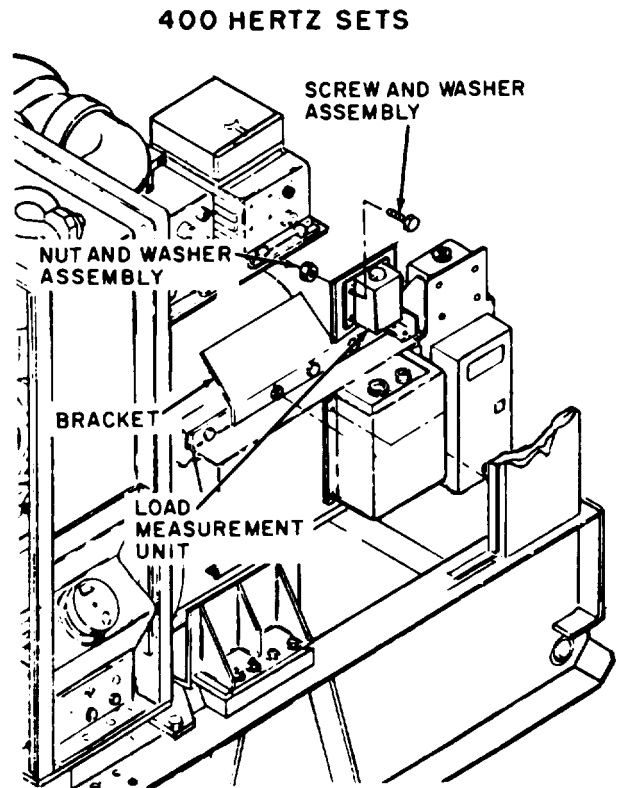

Figure 6-59. Load measurement unit, removal and installation
- b. Removal. Refer to figure 6-59 and remove load measurement unit by removing electrical connector and screws.
Refer to figure 6-59 and install load measurement unit on bracket and secure with screws. Connect electrical connector to unit.